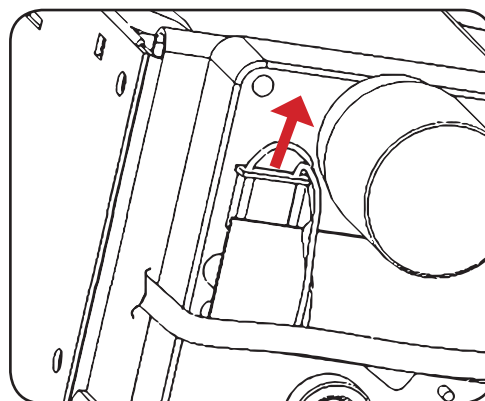

Figure 6.7 - Motor connector disconnection
2. Disconnect the motor connectors (fig. 6.7) and remove all motors with spirals.